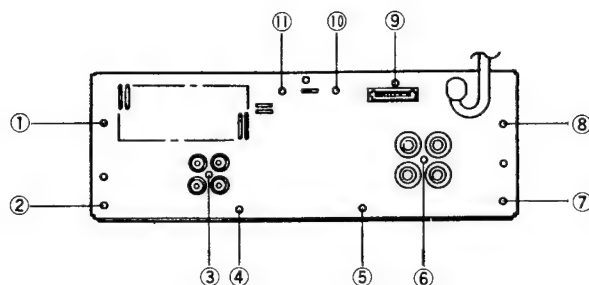

Fig. 3
1. Remove screws ① to ⑪, and then remove the rear panel in Fig.3
1. Remove the rear panel in Fig. 3 (Refer to step ③)
2. Remove connector ①, Remove Switch rod ② from speaker selector switch
3. Remove screws ③ to ⑥, and then remove the pcb-2 ⑦ with the power trans